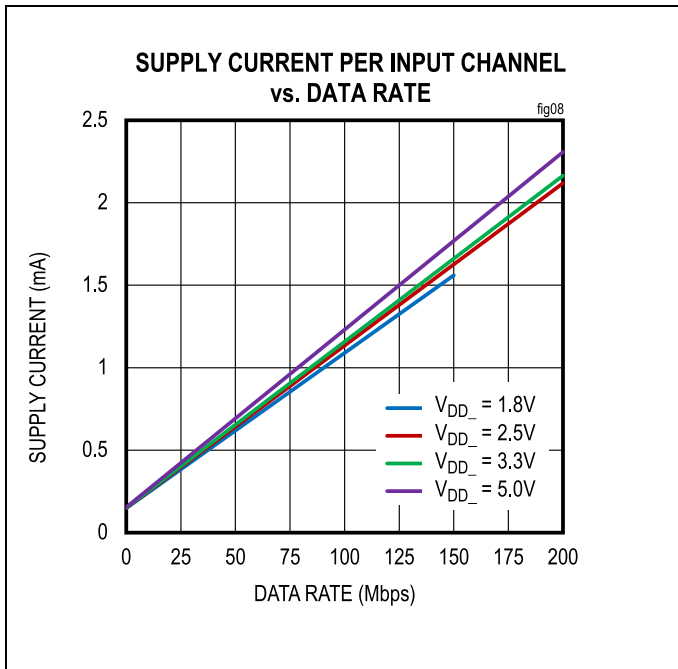
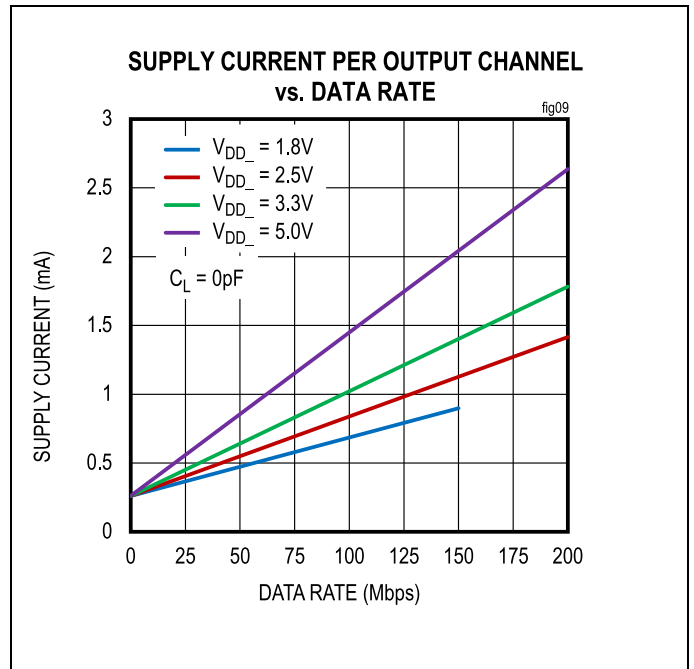

Figure 8. Supply Current per Input Channel (Estimated)
Figure 9. Supply Current per Output Channel (Estimated)
The required current for a given supply (V_{DDA} or V_{DDB}) can be estimated by summing the current required for each channel. The supply current for a channel depends on whether the channel is an input or an output, the channel's data rate, and the capacitive or resistive load if it is an output. The typical current for an input or output at any data rate can be estimated from the graphs in Figure 8 and Figure 9. Note that the data in Figure 8 and Figure 9 are extrapolated from the supply current measurements in a typical operating condition.
The total current for a single channel is the sum of the no load current (shown in Figure 8 and Figure 9), which is a function of voltage and data rate, and the load current, which depends on the type of load. Current into a capacitive load is a function of the load capacitance, the switching frequency, and the supply voltage.
- Channel 1 is an output channel operating at 2.5V and 100Mbps, consuming 0.84mA, estimated from Figure 9.
- Channel 2 is an input channel operating at 2.5V and 20Mbps, consuming 0.35mA, estimated from Figure 8.
- Channel 1 is an input channel operating at 3.3V and 100Mbps, consuming 1.16mA, estimated from Figure 8.
- Channel 2 is an output channel operating at 3.3V and 20Mbps, consuming 0.41mA, estimated from Figure 9.